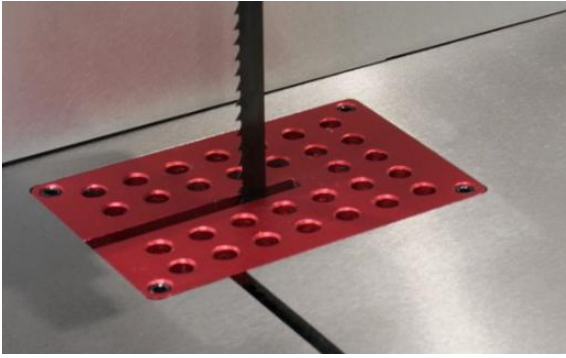

Fig. 23
6. Place the throat plate back in place with the slot towards the front of the saw (Fig. 23).